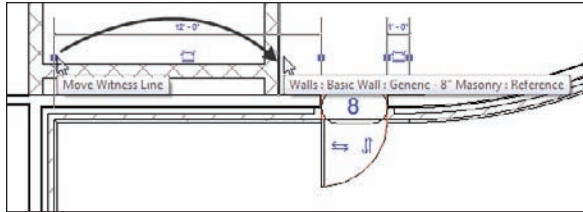

FIGURE 2.68 Moving the witness line to a more appropriate location
2. Move the left witness line to the outside face of the CMU wall, as shown in Figure 2.68.